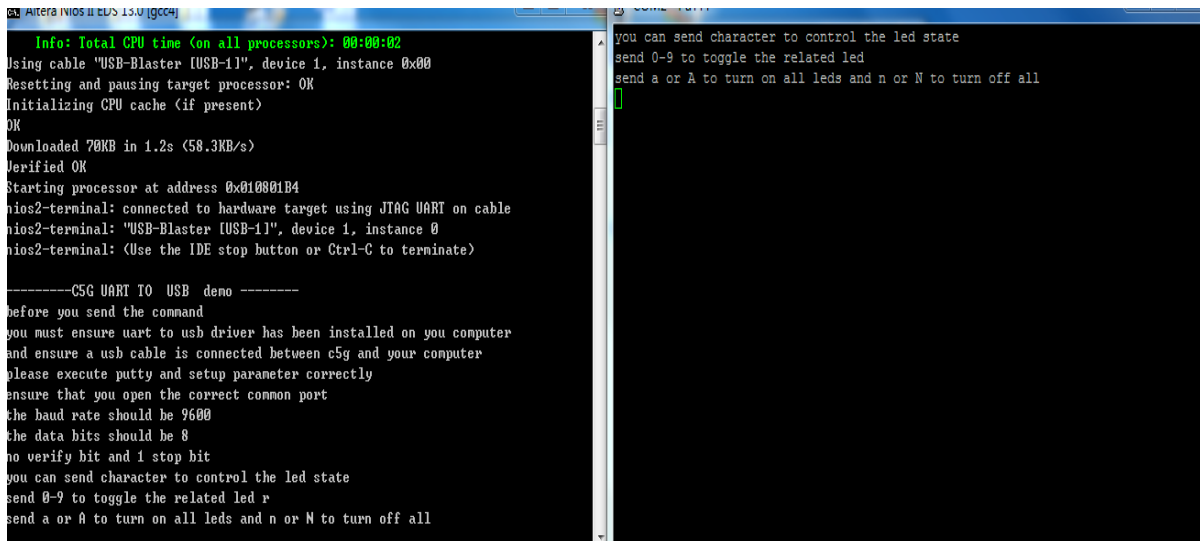

Figure 6-7 Running result of `uart_usb demo`
- the Nios II-terminal and putty terminal running result as shown in **Figure 6-7**.